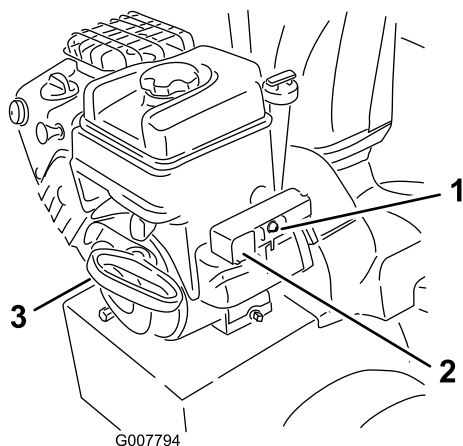

Figure 32
7. Start the machine pulling the recoil starter or pressing the electric-starter button (Figure 32).